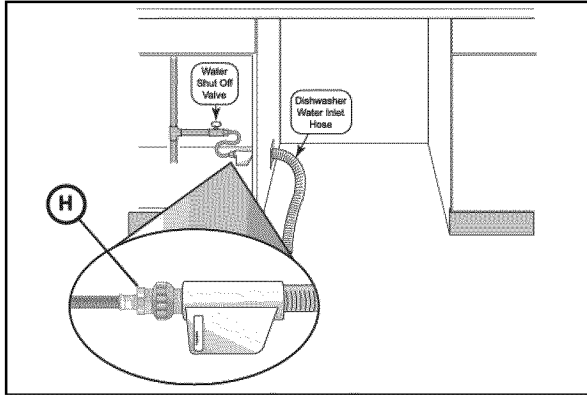

Figure 9
Install an easily accessible shut-off valve (not supplied) in the hot water supply line, as shown in **Figure 9**. All solder connections must be made before the water line is connected to the dishwasher.
1. Assemble the water supply adaptor fitting (H) from the parts bag onto the dishwasher water supply hose. This connection does not require Teflon brand tape
*NOTE: The end of the dishwasher water inlet hose is heavy and will need to be supported. It is best to lay the end on the cabinet floor as shown in Figure 9.*